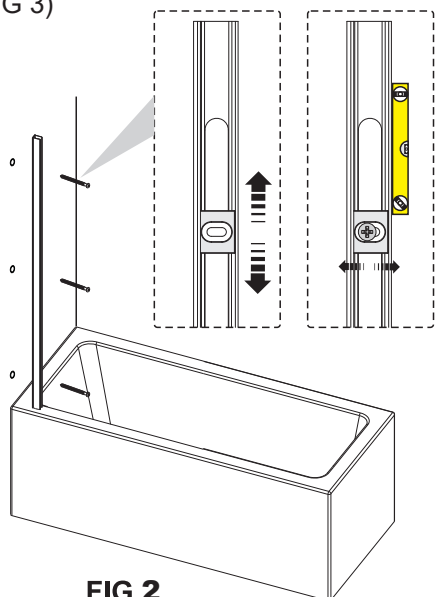
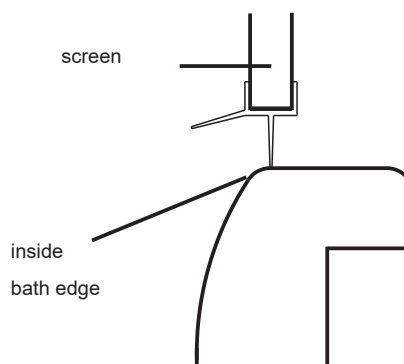

FIG 2
FIG 3
2. Unscrew the top pivot bracket SP0LF01 and insert panel A, reattach the pivot bracket. Fig 2.
- To help fit the bottom seal, turn the screen upside down. Apply silicone as shown in fig 3A. Fit seal SP0LFCS on to the bottom of the bath screen Fig 3 ensuring to push the end of the seal fully into the bottom bracket .
2. Ensure profile is plumb to the wall (FIG 2) and positioned to ensure the bathscreen will be on the inside edge of the bath. (FIG 3)